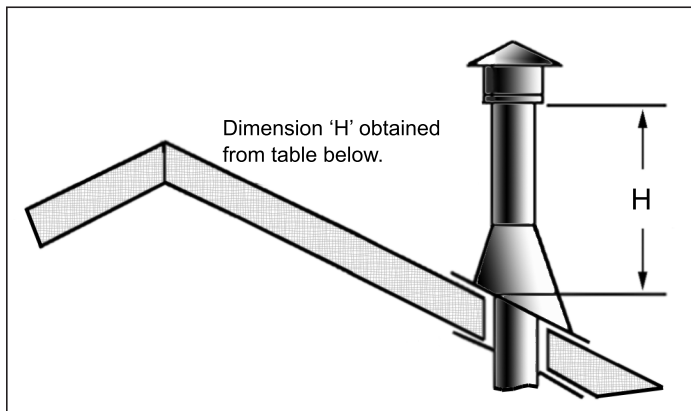

Figure 31: Height of Vertical Termination; Reference Table 5.
- Continue to add pipe sections until the height of the vent cap meets the minimum code requirements. Refer to Figure 31 and Table 5. Note that for steep roof pitches, the vent height must be increased. In high wind conditions, nearby trees, adjoining roof lines, steep pitched roofs, and other similar factors can result in poor draft, or down drafting. In these cases, increasing the vent height may solve the problem.
Table 5: Minimum 'H' for Figure 31.